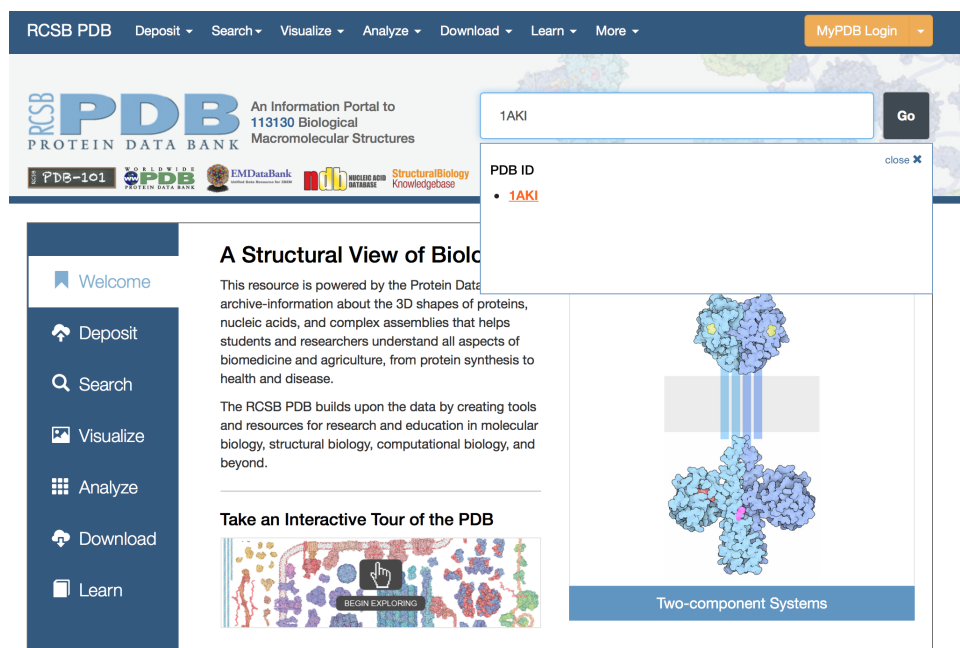

Figure 3: Downloading lysozyme pdb file from RCSB website.
1. We first must download the protein structure file with which we will be working. For this tutorial, we will utilize hen egg white lysozyme (PDB code 1AKI). Go to the RCSB website and download the PDB text for the crystal structure (Figure 3).